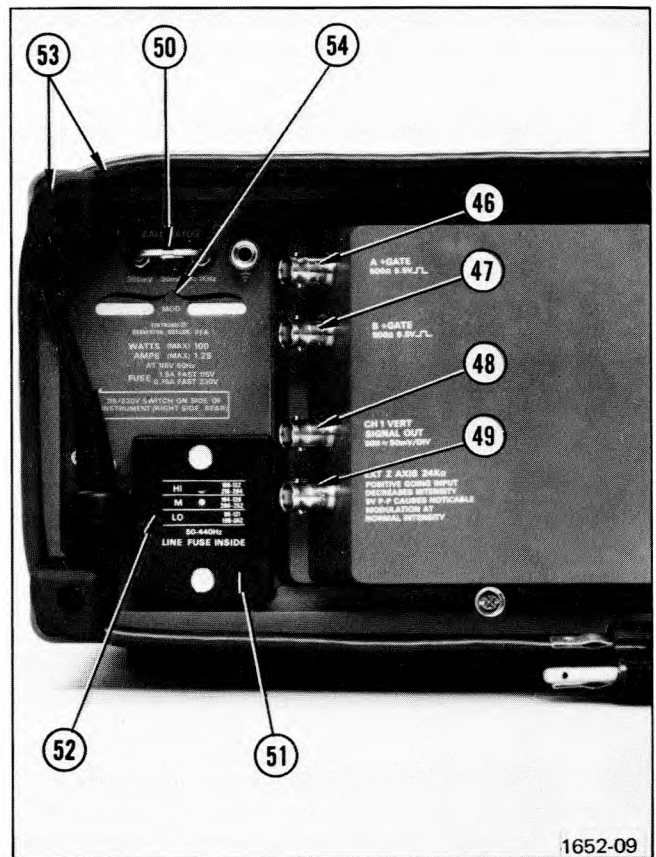

Fig. 2-6. Rear Panel section.
See Fig. 2-6 for location of items 46 through 54.